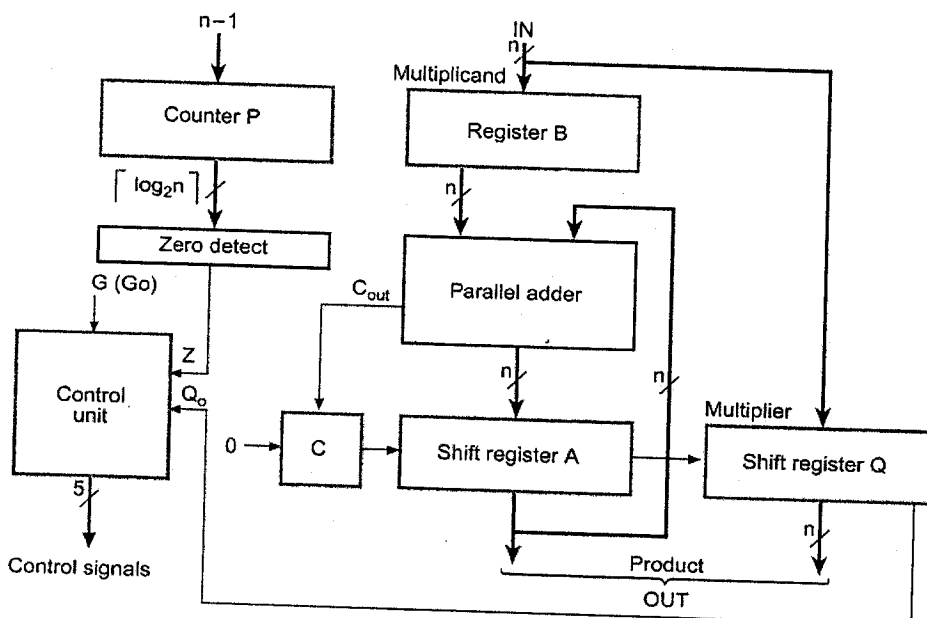

Figure 2
2. (a) A block diagram for a n -bit binary multiplier is shown in figure 2 below. Explain in detail the operation of the system. Your explanation should include a description of the function of each register in the diagram. [10 marks]
- (b) Design a microprogrammed control unit for the binary multiplier shown in figure 2. Your design should include an ASM chart for the microprogrammed control unit and details on the microinstruction Control word format along with a complete block diagram for the control unit. [13 marks]